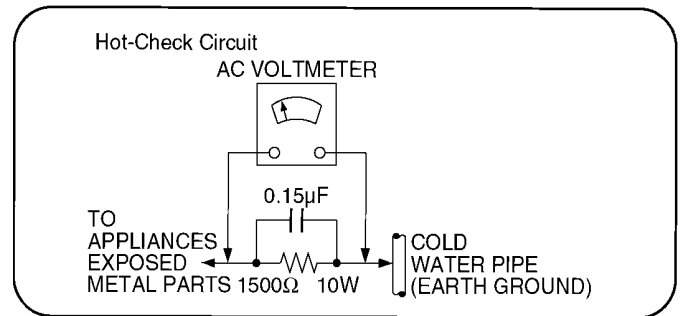

Figure 1
1.1.2. Leakage current hot check (See Figure 1)
2. Connect **A** to exposed metallic part on the set. And connect **B** to a good earth ground, as shown in Figure 1.